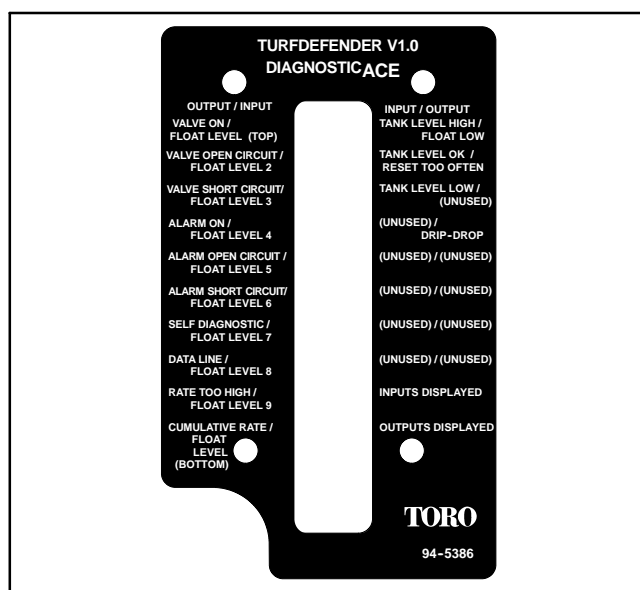

Figure 13
3. Connect the Diagnostic Display connector to the correct harness loopback connector. Install TurfDefender™ overlay decal (supplied with TurfDefender™ kit) onto the Diagnostic Display (Fig. 13).